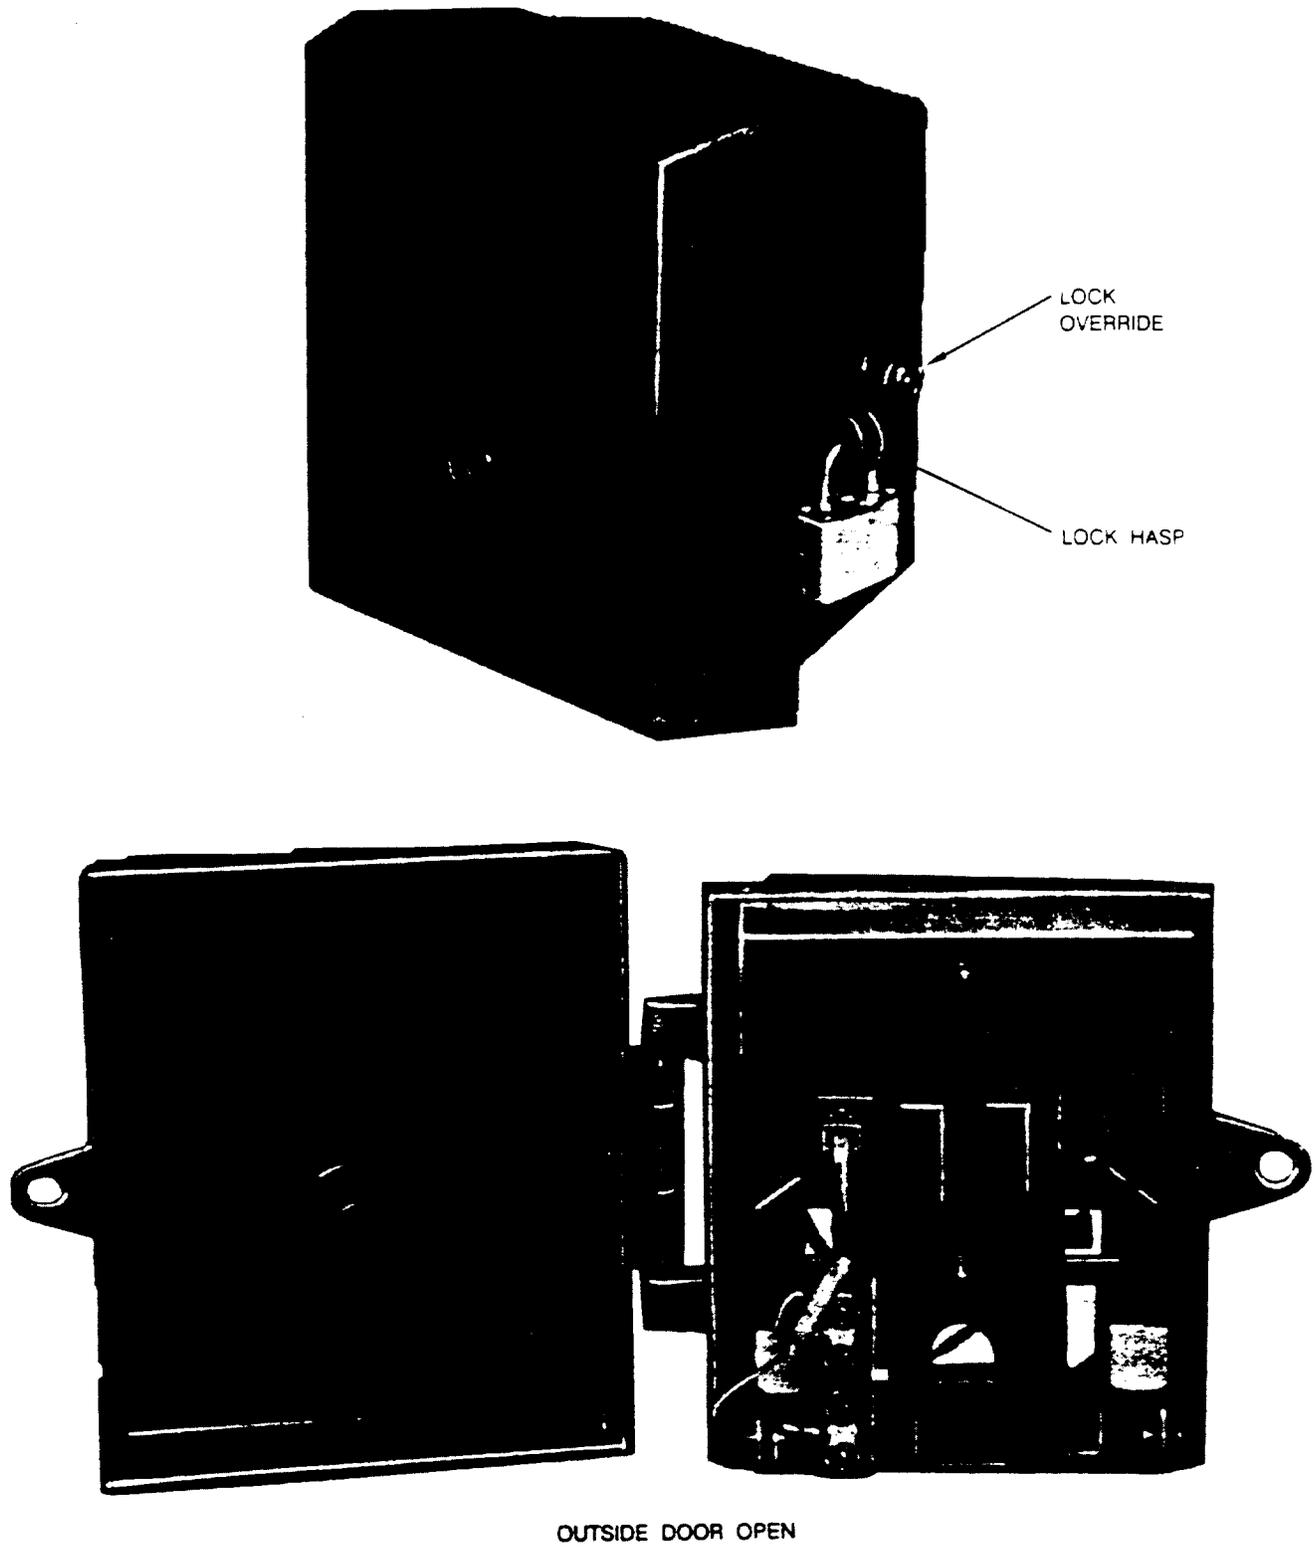

Figure 1. 401 NIU
3.01 The 401 NIU (Figure 1) consists of a housing with a hinged cover, provisions for two modular plugs and jacks, and termination of subscriber wiring. The 401 NIU (Figures 1 and 2) also has a base with a grommet for entry of service wire, subscriber wire, and ground wire.
3.04 The outside cover and housing are equipped with a hasp for a subscriber provided lock (Figure 1). The hasp attached to the housing is equipped with a security screw for telephone company override of the subscriber provided lock.